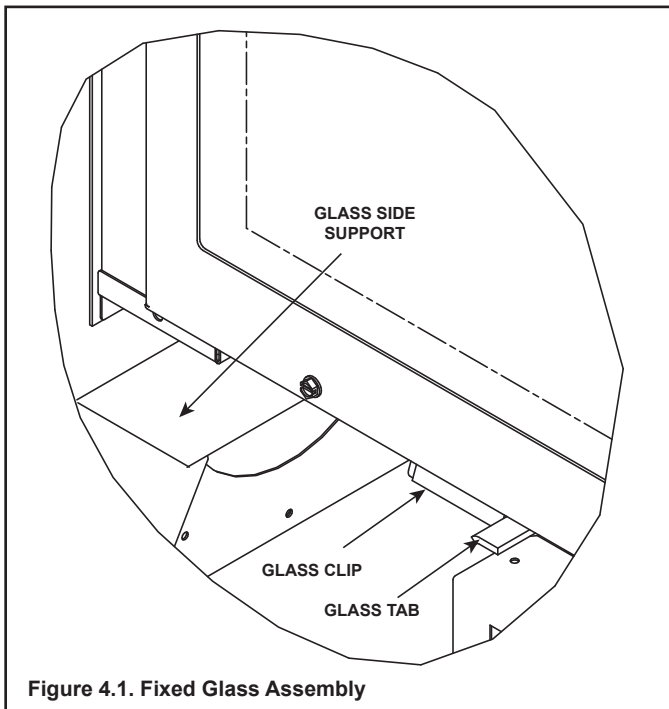

Figure 4.1. Fixed Glass Assembly
3. Use both index fingers to release spring latches. See Figure 4.1.
4. Allow glass to tilt forward. Grasp glass on the upper return lip of glass frame and tilt glass “out” and “down”. Lower gently to rest on side supports. See Figure 4.1. Allow top of glass assembly to tilt forward. Lift glass assembly “up” and “out”.
4. Hold bottom of the glass as you allow the glass assembly to seat over the four lower glass clips. See Figure 4.1.